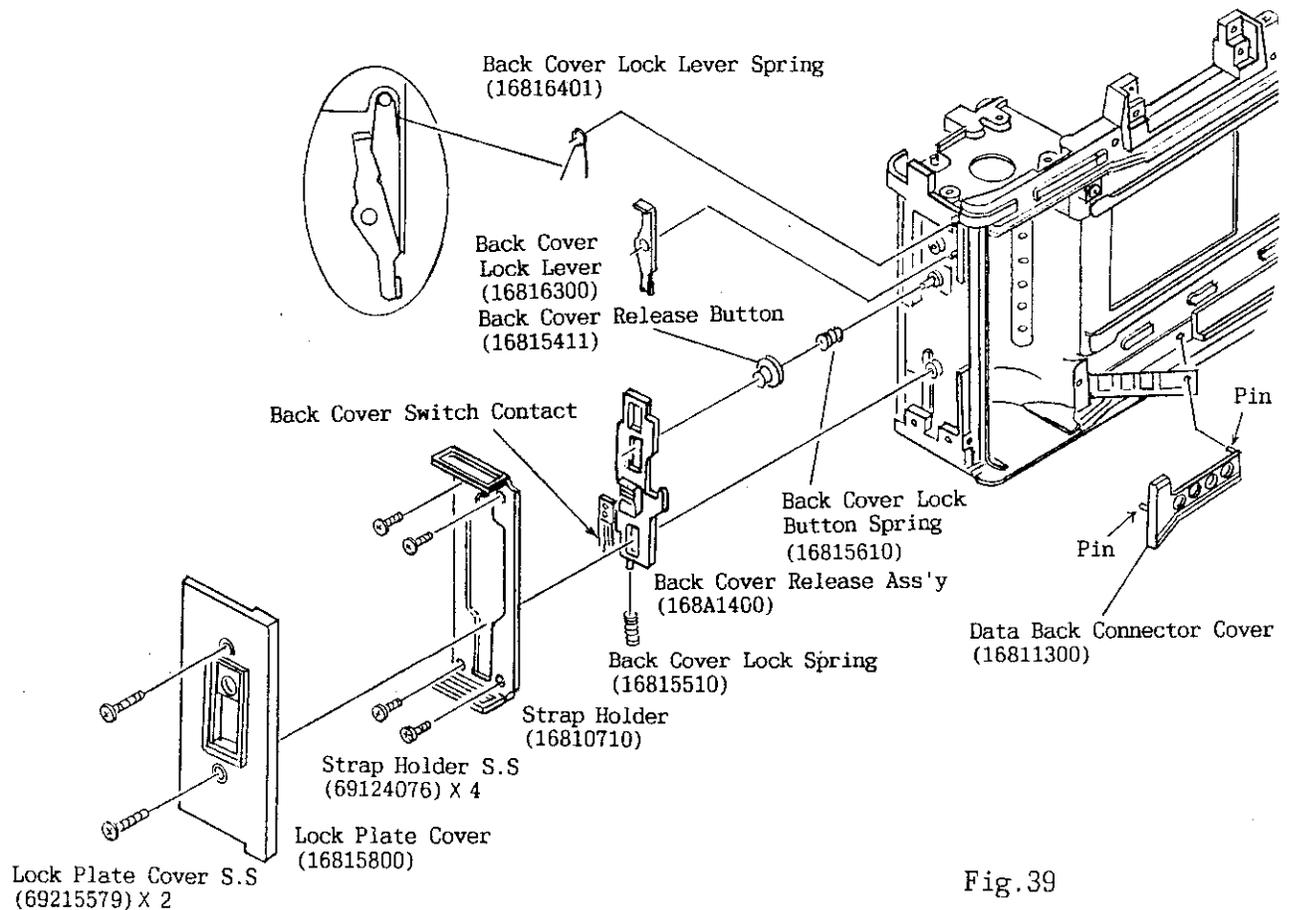

Fig. 39
5) Remove the Data Back Connector Cover (16811300). (See Fig.39)